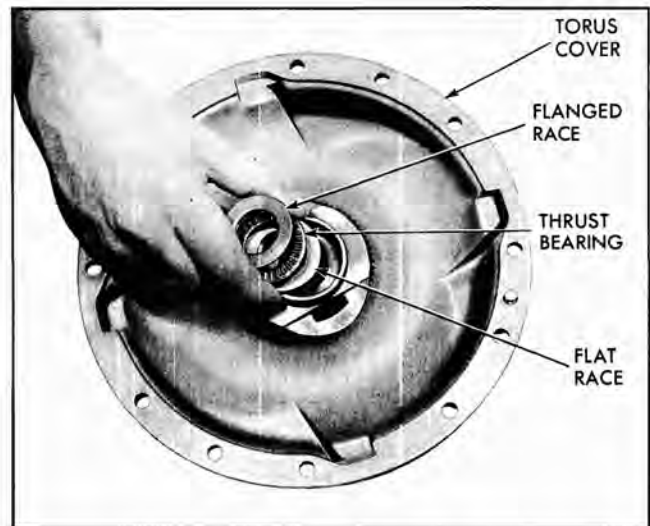

Fig. 129 Installing Thrust Bearing and Race in Torus Cover
13. Install flat bearing race into torus cover (Fig. 129).